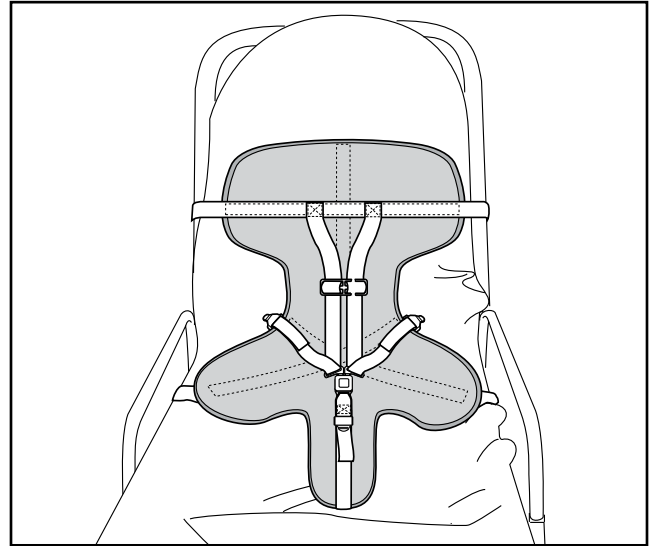

Figure 1 - Pedi-Mate® Positioned on a Cot
5. Position the blanket with the black backrest strap at the point where you expect the patient's shoulders to rest (Figure 1).